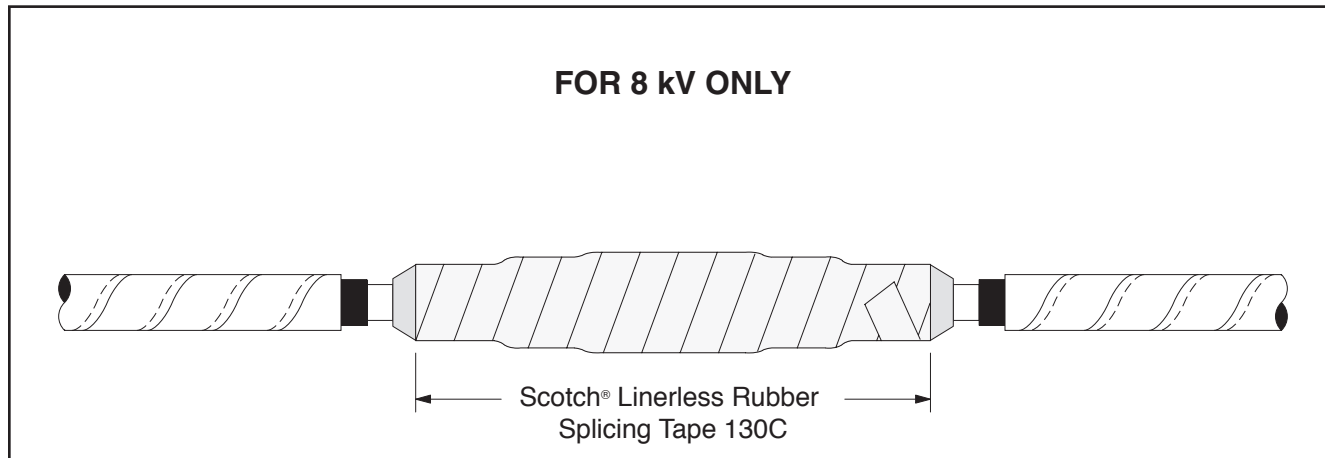

Figure 13
- For 8kv rating only**, apply 2 half-lapped layers of stretched Scotch® Linerless Rubber Splicing Tape 130C over the cold shrink insulator between the end tapers (*Figure 13*).